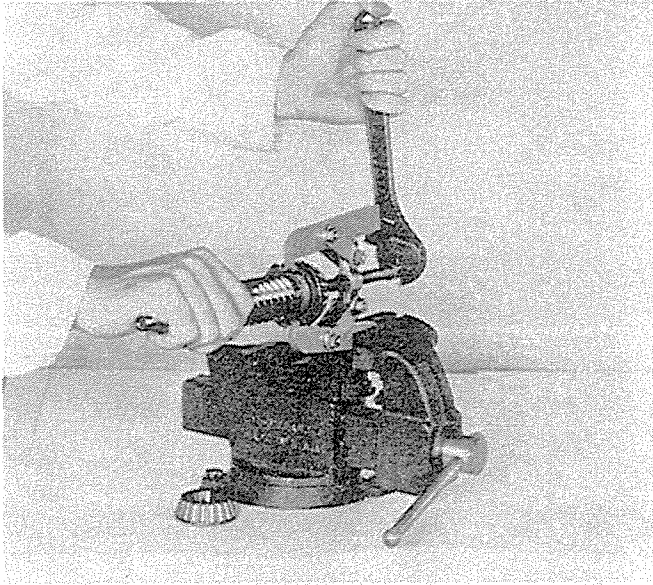

Figure 4
14. Remove the two bearings and the oil slinger from the worm. Two clearance notches may be cut in the oil slinger to provide clearance for a bearing puller. Figure 4. Note which way the oil slinger is curved.